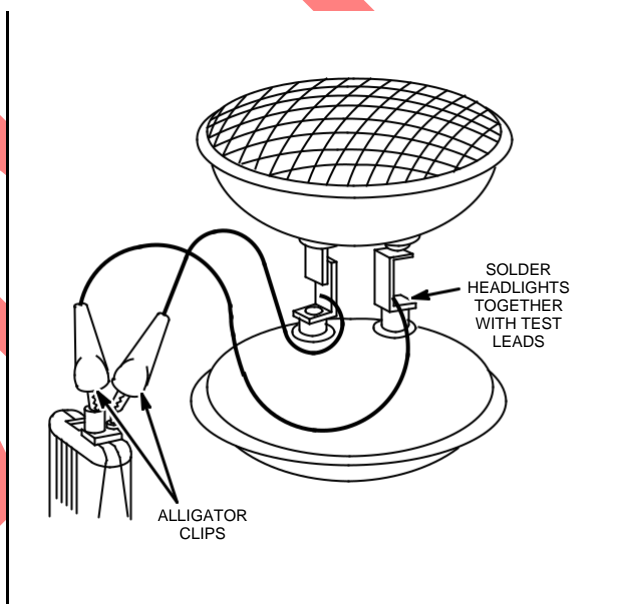

Fig. 649 – BATTERY TESTER
4. Solder the two headlights together along with test lead wires as shown in Fig. 649.